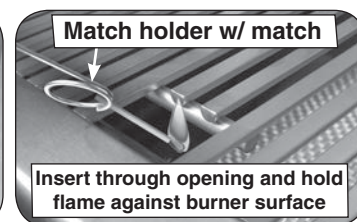

Fig. 27-3 Manual lighting via match holder
- Grills equipped with an infrared burner include a wire extension match holder (attached to drip tray) to assist with manual lighting (see Fig. 27-3).
4. If the burner does not light within five (5) seconds of turning the control knob, **immediately depress the knob and turn the valve to OFF**. **WAIT FIVE (5) MINUTES** before repeating steps 2 through 4 of the MANUAL LIGHTING instructions.